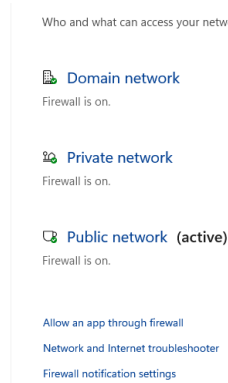

Figure 1.3.1 System Firewall Interface
- 1 Open the System Firewall and Network Protection interface, as shown in Figure 1.3.1.